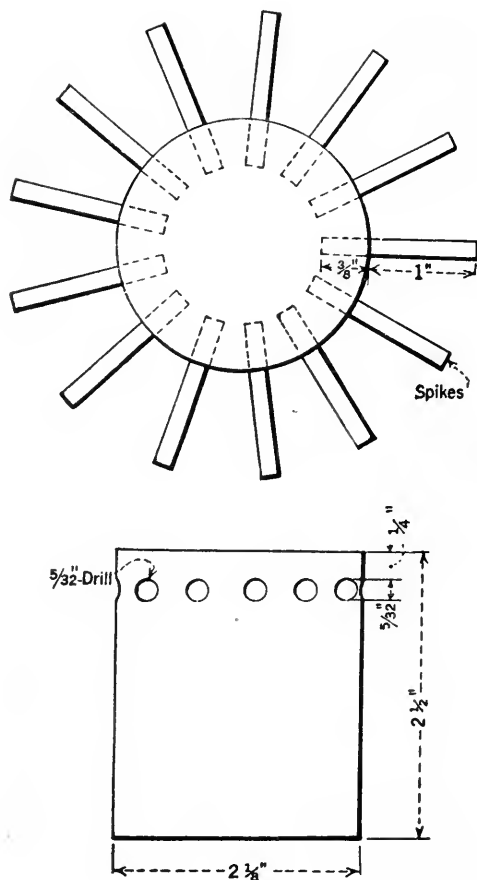

FIG. 2
**I**F YOU are interested in the Roberts Circuit here is an arrangement that will prove to be of a definite value to you in winding the necessary coils. A small block of hard wood (maple perhaps), is turned to a cylindrical form of  $2\frac{1}{2}$  inches in diameter and  $2\frac{1}{2}$  inches in length, as in Fig. 2. The circumference of this form is divided into thirteen equal parts. The easiest way to accomplish this is to lay out the circle on a sheet of paper, as in the diagram and make several trials at